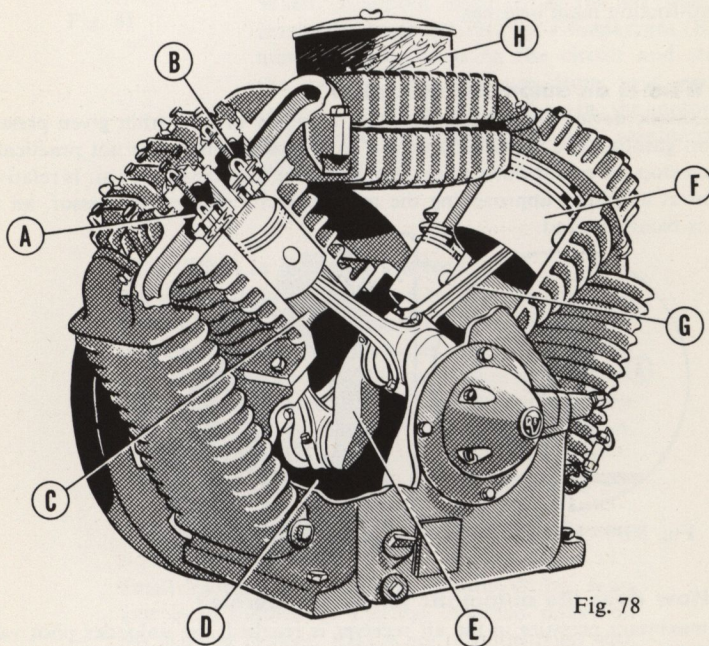

Fig. 78
107. What are the principal parts of a piston type compressor? (Fig. 78) Intake (A) and Exhaust (B) valve assemblies, cylinder (C) and crankcase (D), crankshaft (E), piston (F) and connecting rod assembly (G), and air intake filter (H).